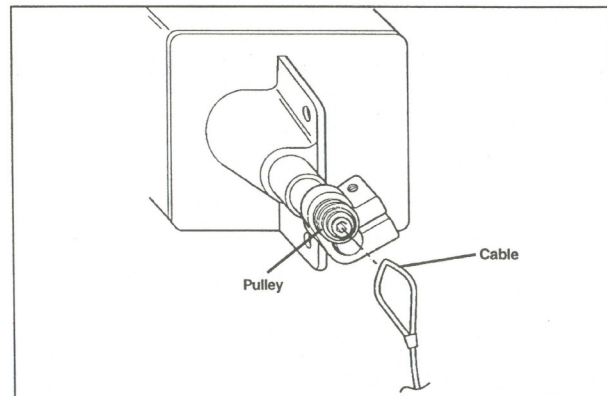

Figure 5 — Loop cable end over pulley of upper crank handle assy.
- 11) Loop one cable end over the pulley of the upper crank handle assy. (see figure 5).